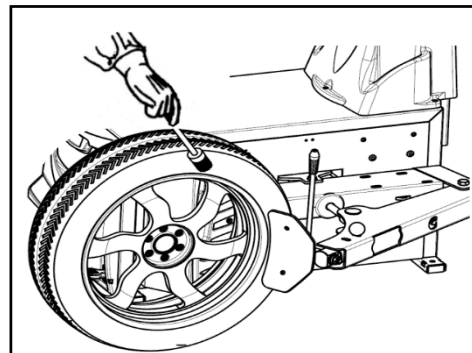

FIG7
- Place the tire between the bead breaking blade and tire pressing runner clog (FIG7). Then step down the tire press pedal (FIG2-13) to detach the rim from the tire. Repeat the same operation on the other parts of the tire to make the tire completely detached from the rim.